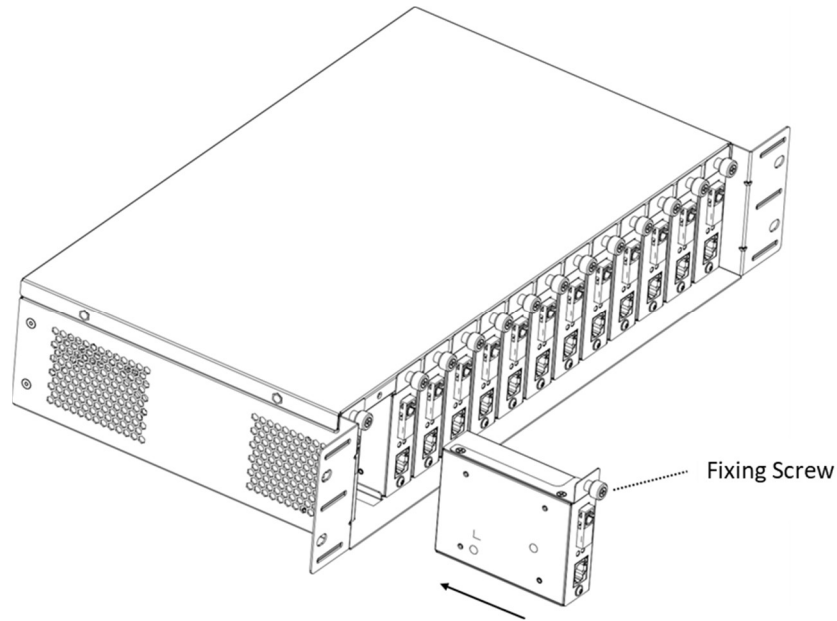

Figure 2-2 Install the Fiber Optical Transceiver into the Chassis
- Slide the fiber optical transceiver into the chassis, as shown in Figure 2-2.